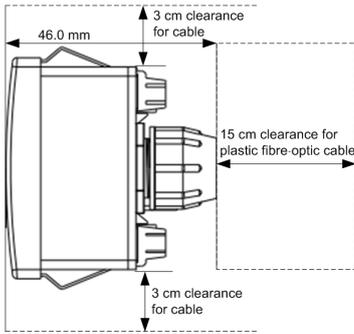

Figure 1-1 Clearance for Terminal Wiring
4. Maintain a minimum clearance from the device as given in Figure 1-1 to ensure safety and to avoid accidental damage to the plastic fibre-optic cable.